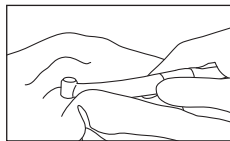

Fig. 11
- 3) Wipe the exterior of the handpiece and motor clean using a cloth moistened with disinfectant or ethanol with a concentration of 60-90%. (Fig. 11)